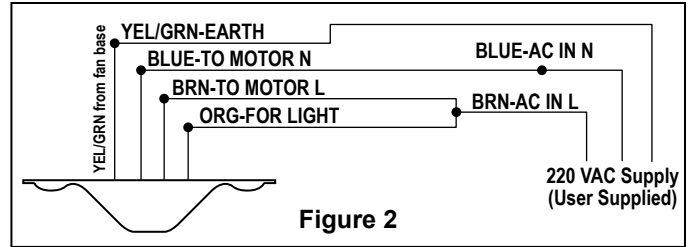
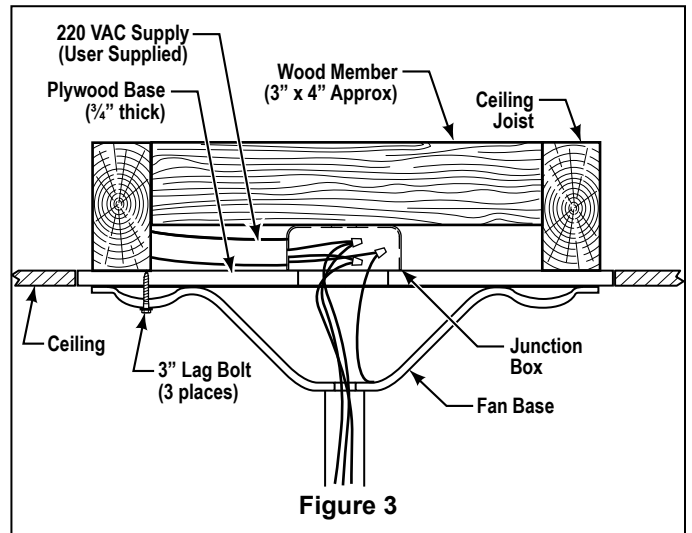

Figure 2
Figure 3
4. Securely connect the blue fan motor wire to the blue supply (neutral) wire using wire connector supplied. Securely connect the brown fan motor wire and orange wire to the black supply wire using wire connector supplied (Figure 2). After connections have been made, turn leads upward and carefully push leads into the outlet box, with the blue and green leads on one side of the outlet box and the brown and orange leads on the other side of the outlet box. (Figure 3)